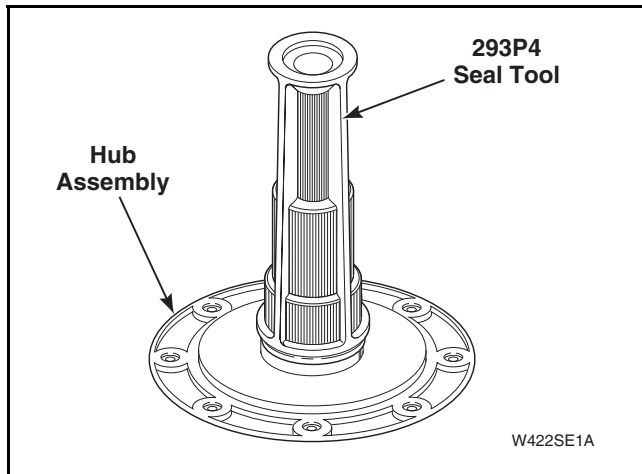

Figure 26
- Place new drive bell seal onto hub and carefully push into position using large end of No. 293P4 Seal Tool. Refer to *Figure 26*.